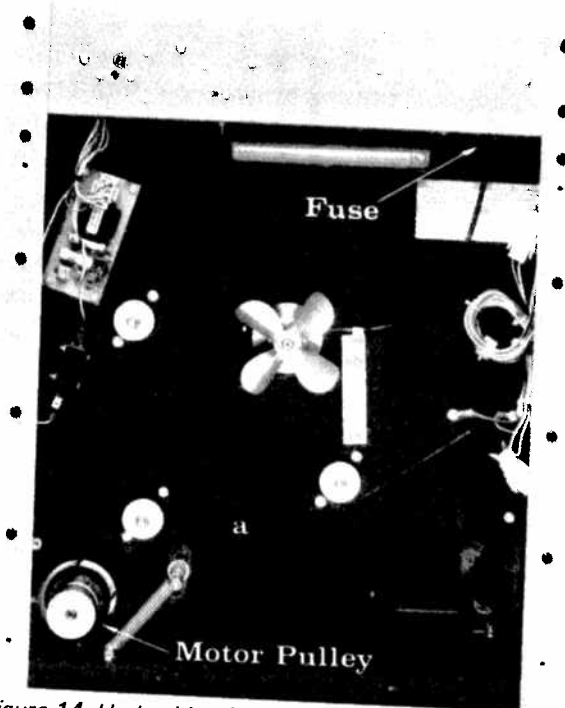

Figure 14. Underside of Model TJ-6, Bottom Plate Removed. Lift post "a" to relieve tension when removing or replacing belt.
1. Take hold of the post shown in Figure 14 and lift the motor as far as it will go. Holding the motor in this position, remove the old belt, working it off the motor pulley first.
Remove the bottom plate as described under Drive Belt Replacement, above. See Figure 14 for fuse location. For 50-Hz instruments connected to 220, 230, or 240-V source, use 4-A, 250-V time delay fuse. For 60-Hz instruments connected to 120-V source, use 7-A, 125-V time delay fuse.